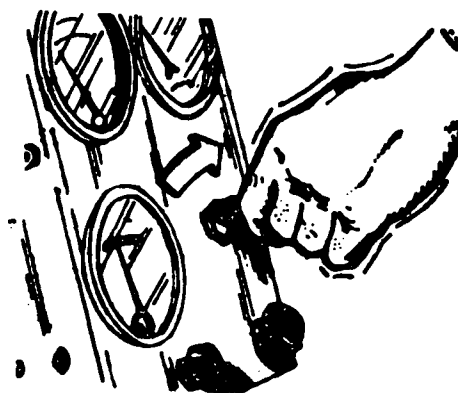

Fig. 5
- f) Insert the key and start the engine (Fig. 5)